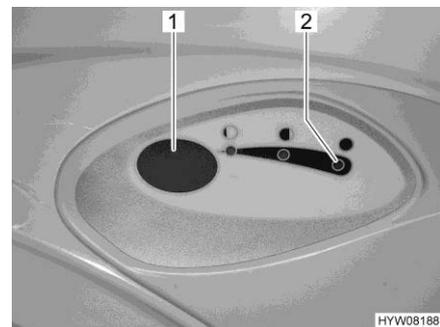

Fig. 296 Flush button/indicator lamp
- For flushing, press the blue flush button (Fig. 296,1).
The indicator lamp (Fig. 296,2) lights up whenever the sewage tank has to be emptied.